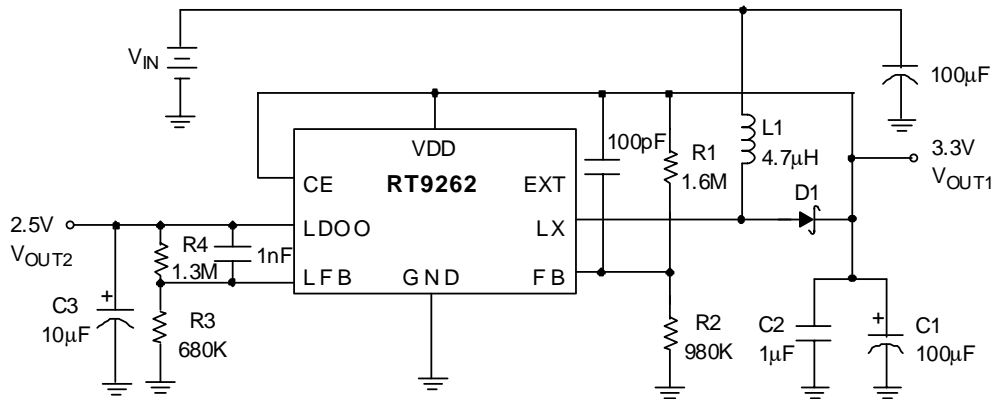
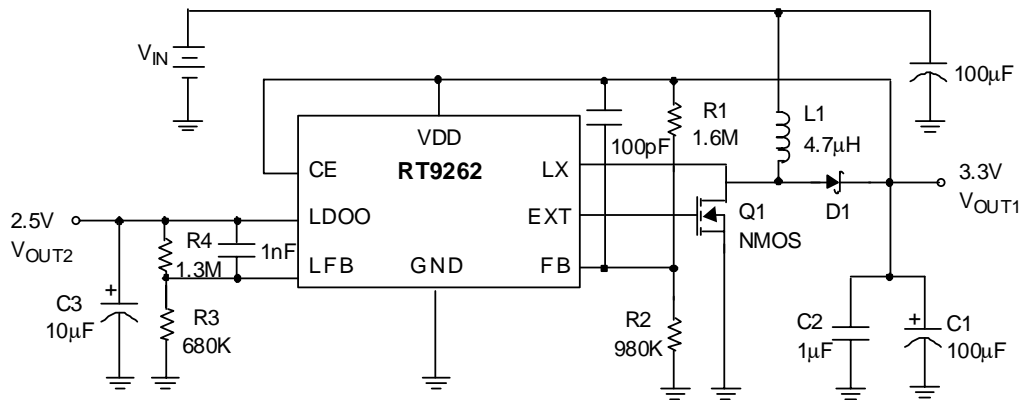
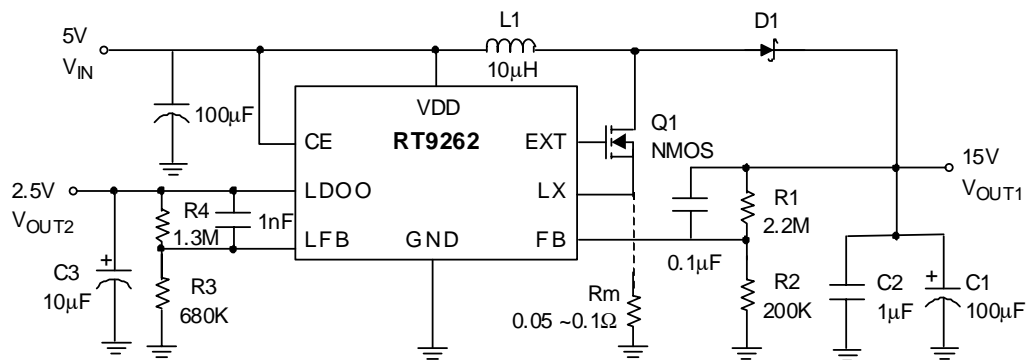

Fig. 1 RT9262 Typical Application for Portable Instruments below 400mA
Fig. 4 0.4A ~ 2A Output Current Application
Fig. 5 High Voltage Application (Rm should be added when IL > 100mA)
Referring to application circuits Fig.1 to Fig.5, the output voltage of the switching regulator (V_{OUT1}) can be set with Eq.1.
Referring to application circuits Fig.1 to Fig.5, The selection of R1, R2, R3, and R4 based on the trade-off between quiescent current consumption and interference immunity is stated below:
- A proper value of feed forward capacitor parallel with R1 (or R4) on Fig.1 to Fig.5 can improve the noise immunity of the feedback loops, especially in an improper layout. An empirical suggestion is around $100pF \sim 1nF$ for feedback resistors of $M\Omega$, and $10nF \sim 0.1\mu F$ for feedback resistors of tens to hundreds $K\Omega$.
- The following diagram is an example of 2-layer board layout for application circuits Fig.1 to Fig.4.